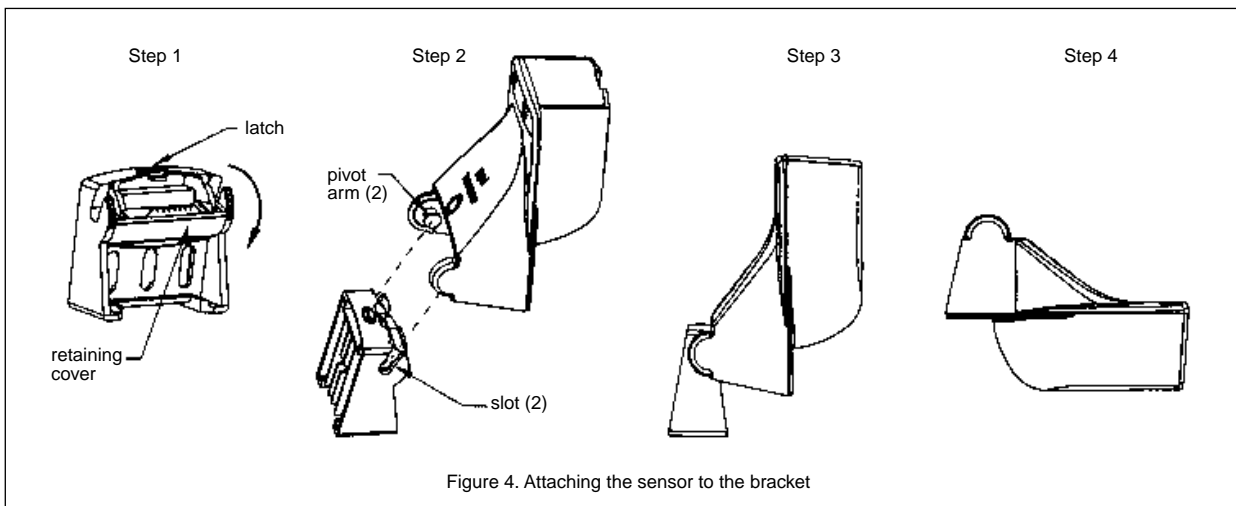

Figure 4. Attaching the sensor to the bracket
- If the retaining cover near the top of the bracket is closed, open it by depressing the latch and rotating the cover downward (see Figure 4).